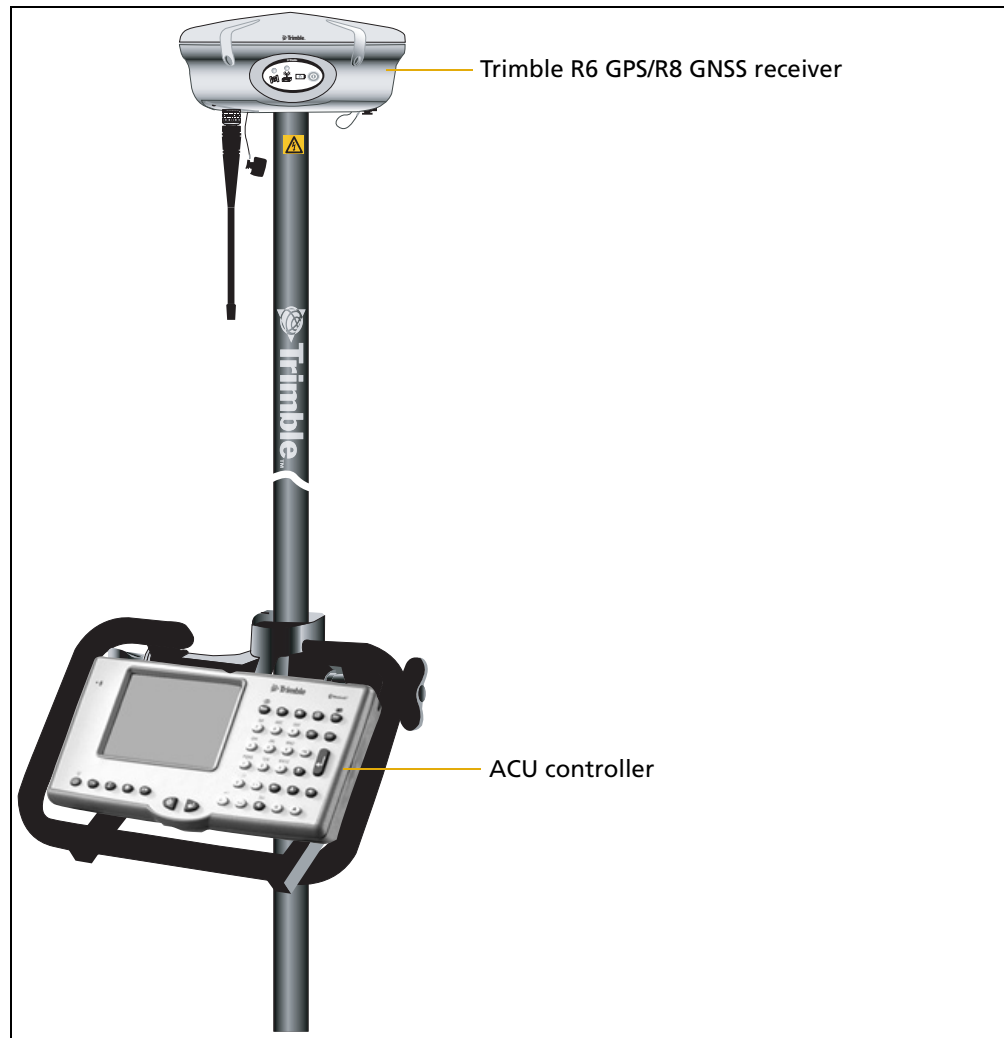

Figure 13.3 Receiver pole-mounted setup
Figure 13.3 on page 86 shows the pole-mounted setup for the receiver. To mount the receiver on a range pole:
**Note** – When using a Trimble ACU, a TSCe controller with BlueCap module, or a TSC2 controller, no cabling is required, as shown in Figure 13.3.